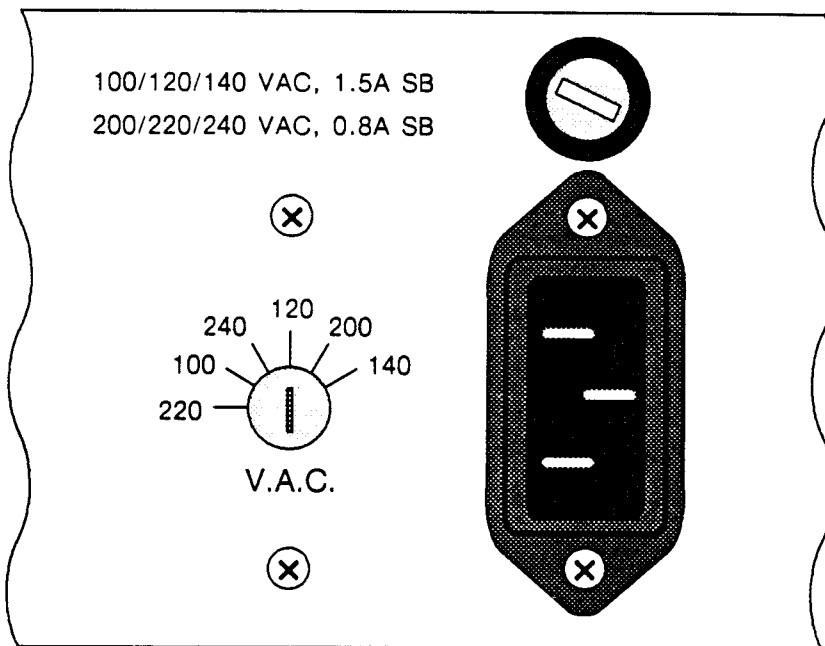

Figure 2-1. Rear Panel Fuse and Voltage Select Switch Locations.
**Always be sure that the fuse is the type and value specified, and that the voltage select switch (Figure 2-1) is set to correspond to the AC power input voltage; otherwise, the counter may be damaged.**
The fuse for the counter is located on the rear panel above the line voltage socket (Figure 2-1). The following fuse types must be used: